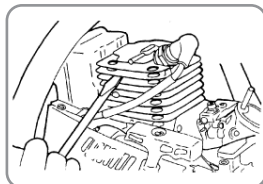

Fig. 18
a). Using a wire hook, take out the filter from the filler port (Fig. 18).